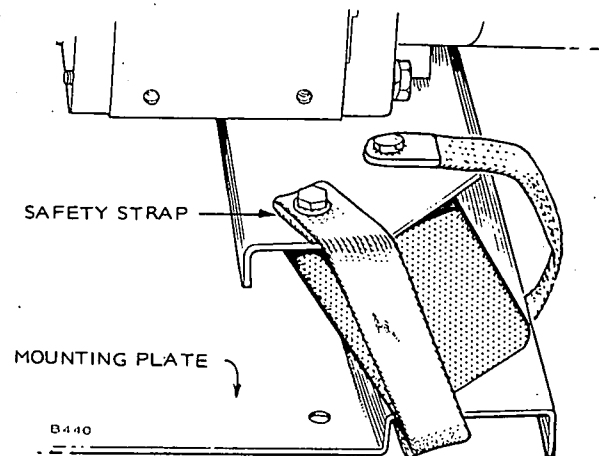

FIGURE 2. VIBRATION ISOLATORS
2. Vibration isolators of the type shown (with safety strap) in Figure 2 are factory installed and require no adjustment. If unit is removed safety straps must be properly reinstalled. No maintenance is required.